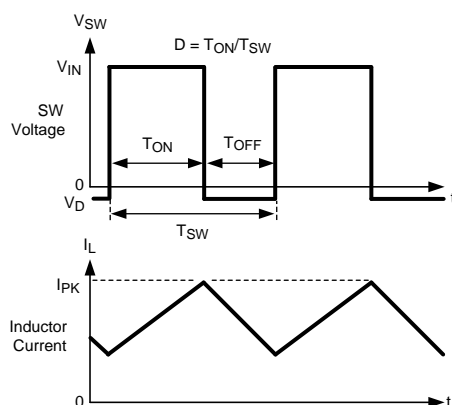

Figure 14. Typical Waveforms
The following operating description of the LMR10510 refers to Functional Block Diagram and to the waveforms in Figure 14. The LMR10510 supplies a regulated output voltage by switching the internal PMOS control switch at constant frequency and variable duty cycle. A switching cycle begins at the falling edge of the reset pulse generated by the internal oscillator. When this pulse goes low, the output control logic turns on the internal PMOS control switch. During this on-time, the SW pin voltage (V_{SW}) swings up to approximately V_{IN} , and the inductor current (I_L) increases with a linear slope. I_L is measured by the current sense amplifier, which generates an output proportional to the switch current. The sense signal is summed with the regulator's corrective ramp and compared to the error amplifier's output, which is proportional to the difference between the feedback voltage and V_{REF} . When the PWM comparator output goes high, the output switch turns off until the next switching cycle begins. During the switch off-time, inductor current discharges through the Schottky catch diode, which forces the SW pin to swing below ground by the forward voltage (V_D) of the Schottky catch diode. The regulator loop adjusts the duty cycle (D) to maintain a constant output voltage.